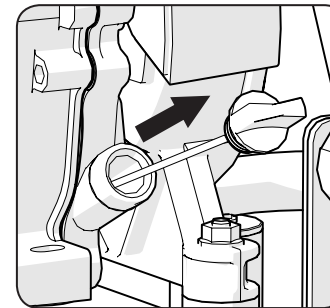

Fig 18
- Remove the oil filler cap. (Fig. 18)